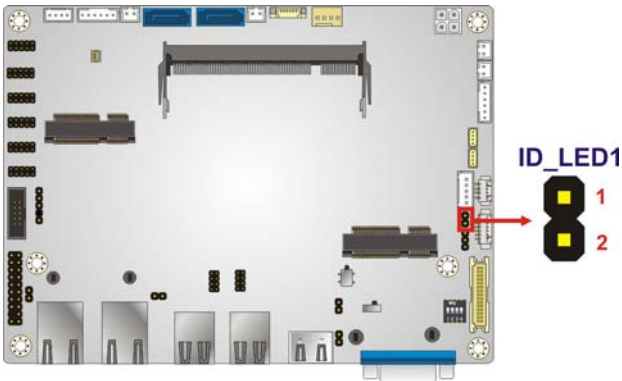

Figure 3-10: IPMI LED Connector Location
- CN Location:See **Figure 3-10**